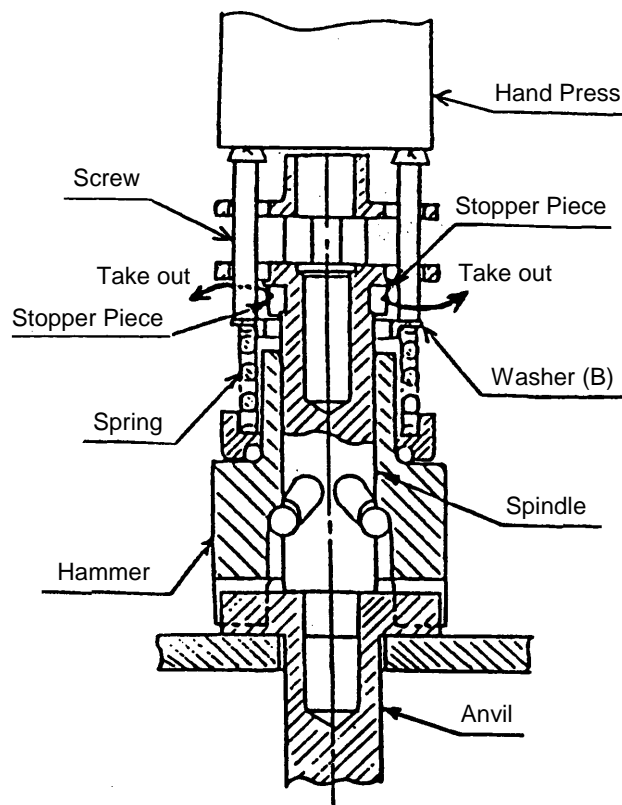
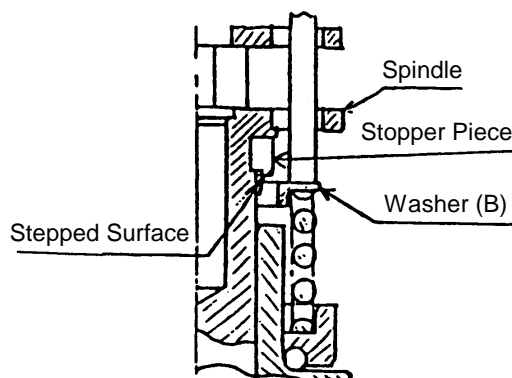

Fig. 10
Fig. 14
- Take the impact section out of the Inner Cover ②③ ②⑧. Remove the Ball Bearing ①⑨ ②④, Washer ①⑧ ②③, two Needle Rollers ①⑦ ②②, and two Idle Gears ①⑥ ②① from the Spindle ①⑤ ②⑦. Next, set the Anvil ④ ⑨ onto the support base of a hand press, as shown in Fig. 10, and align the impact section with the Anvil ④ ⑨. Then, insert two M4 (5/32") or M5 (3/16") screws (30mm[1-3/16"] in length) into the needle roller holes of the Spindle ①⑤ ②⑦, and push down on the heads of the screws with the hand press to compress the Spring ①⑩ ①⑤. Holding the Spring compressed, use a small minus-head screwdriver to remove the two halved stopper Pieces ①④ ①⑨ from the gap between the Spindle ①⑤ ②⑦ and Washer (B) ①① ①⑥. Then release the hand press slowly, and extract the two screws.
- ③ Insert the two Steel balls (5.55mm[7/32"] diameter) through the steel ball guide grooves. After confirming that the steel balls are properly inserted, gently release the hand press to complete the assembly.
As shown in Fig. 10, fit the impact section onto the Anvil (4) [9], and push down the screws with a hand press to compress and support the Spring (10) [15]. Then, as illustrated in Fig. 14, install the Stopper Pieces (14) [19] in the gap between the Spindle (15) [20] and Washer (B) (11) [16] so that the stepped surfaces of the Stopper Pieces are directed toward Washer (B), and gently release the hand press.